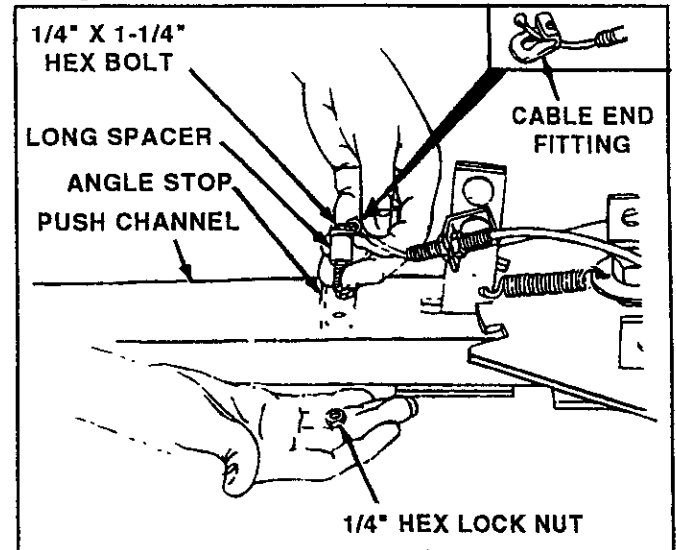

FIGURE 8
8. Assemble 1/4" x 1-1/4" hex bolt down through cable end fitting, through long spacer, angle stop, (right hand hole) and through channel. See figure 8. Secure with 1/4" hex lock nut and tighten the other 1/4" hex lock nut, which was left loose in step 4. **NOTE: Keep cable and fitting in alignment with cable mount bracket when tightening nuts.**